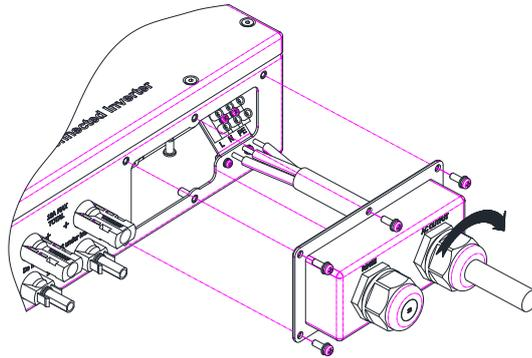

Figure 4-17
4.3.2 Connection to the grid (AC) for Product B
- Connect the AC cable to the terminal, see Figure4-17.